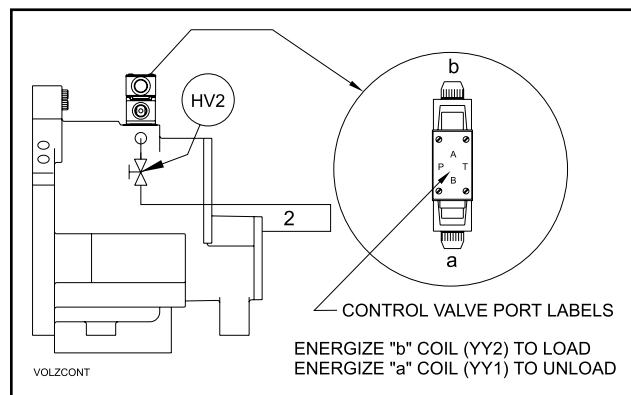

Figure 17
**COMPRESSOR LOADING:** The compressor loads when MSV solenoid coil YY2 is energized and oil flows from the solenoid valve through the needle valve (HV2) to compressor port 2, where it enters the load side of the slide valve piston. This equalizes the force on the slide valve piston and discharge pressure on the slide valve area loads the compressor. See Figure 17.